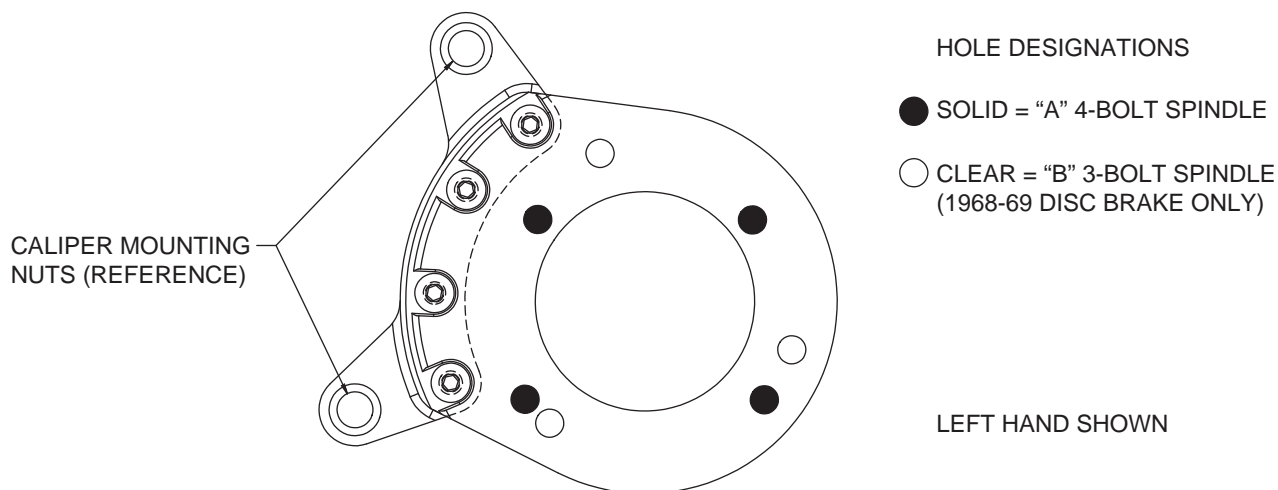
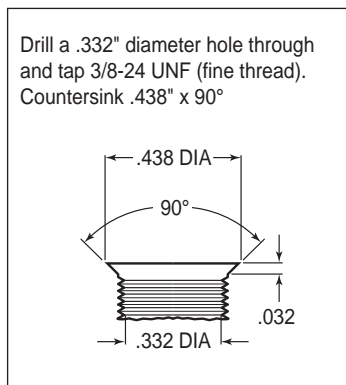

Figure 1. Wilwood Caliper Mounting Bracket
Figure 3. Drill and Tap Detail
This kit has been designed for use with both three and four bolt spindle configurations. The only difference is in how the Wilwood caliper mounting bracket is installed. The same bracket is used for both configurations; only the 1968-69 disc brake spindle utilizes three mounting holes while all other spindles use the four mounting holes (see Figure 1). For your convenience we have supplied bolt kits for both applications (see parts list and Figure 2 as necessary). Use the bolt kit that is applicable to your vehicle and disregard the other one.
NOTE: This modification should be performed by a qualified machinist and completed before assembly of the Wilwood disc brake kit begins. Using the caliper mounting bracket as a template (refer to Figure 1 as necessary), locate and verify the three original holes on the spindle that need to be modified. Drill a .332" diameter hole through all three holes, then tap 3/8-24 UNF (fine thread). Countersink the holes to .438" diameter x 90°, as shown in Figure 3.
•**NOTE:** This kit uses the same mounting bracket (1) for both the three and four bolt brake spindles. The 4-bolt version, Photo 1 uses four mounting bolts (designated "A"), while the 3-bolt version, Photo 2, uses three (designated "B"). Refer to Figures 1 and 2 for the basic installation position of the bracket and the "A" and "B" reference designations (not physically marked on the brackets).